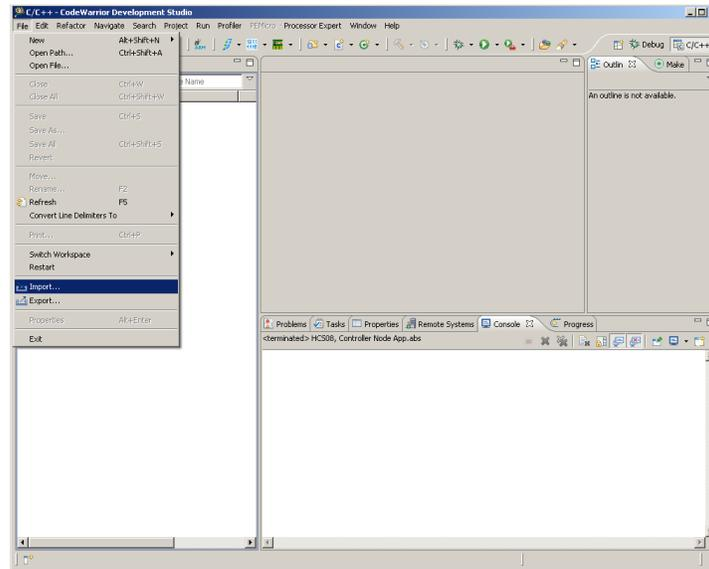

Figure 2-18. CodeWarrior Import Existing Project
2. Select File -> Import Project... as shown in Figure 2-18.